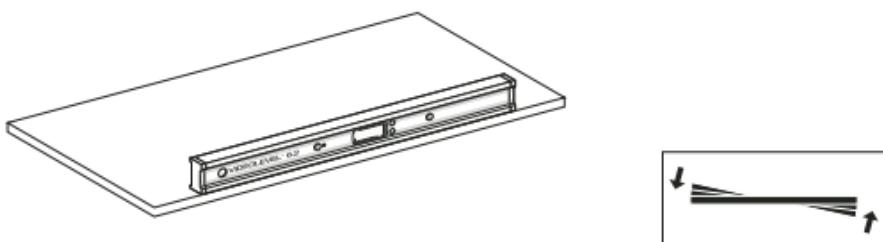

Figure 6: Checking the LaserVision in One Direction
- Note which end of the surface is indicated on the display to be higher and by how many bars. For example, you may see the center bar with two bars on top on the left side of the display and two bars on the bottom on the right side of the display (Figure 6, page 6).